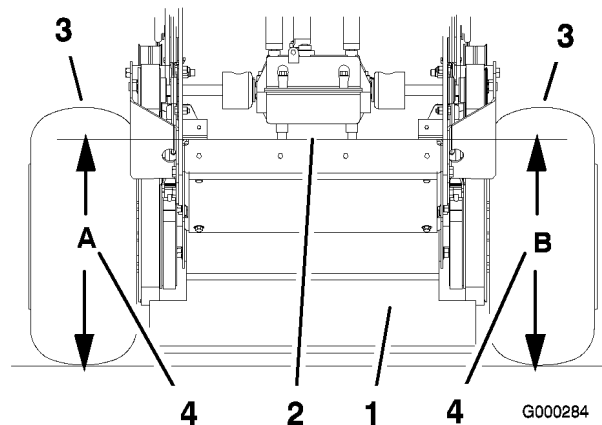

Figure 60
- Measure engine deck height at location **A** (Figure 60).
- Measure engine deck height at location **B** (Figure 60).